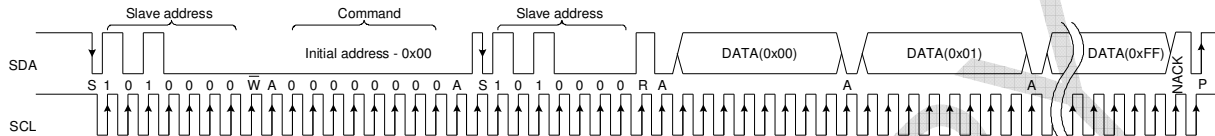

Figure 4 Whole EEPROM dump (SA = 0x50, command = 0x00)
- **Read the whole EEPROM** (see Figure 4). For maximum speed performance MELEXIS recommends that the whole calibration data is stored into the client MCU RAM. However it is possible to read the calibration data from the EEPROM only when needed. This will result in increased time for temperature calculation i.e. low refresh rate.